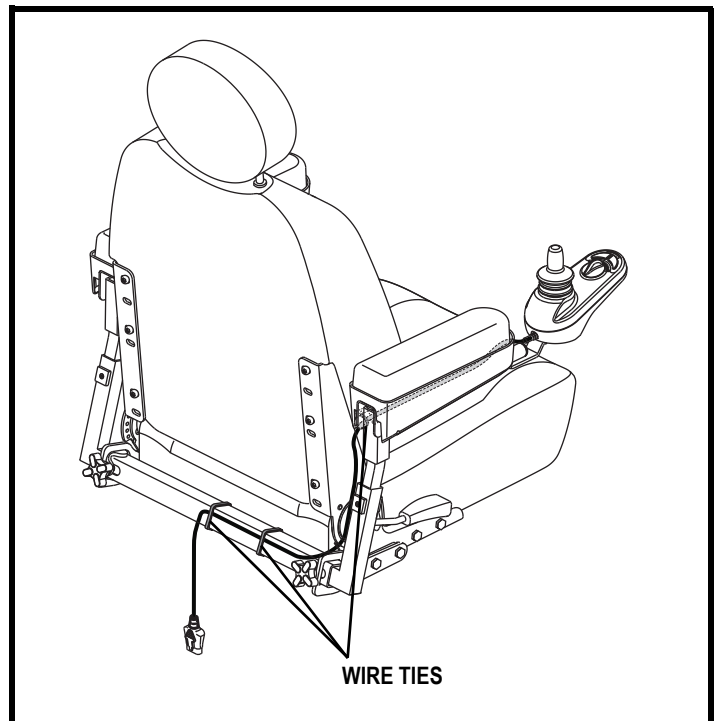

Figure 12. Controller Harness Routing
11. Secure the controller harness to the armrest receiver with wire ties. See figure 12.